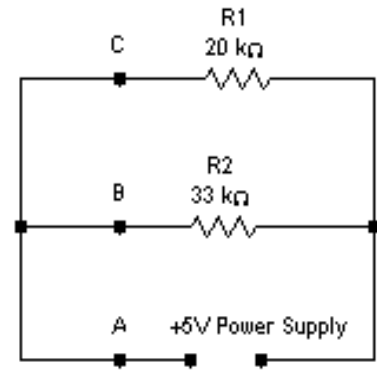

Figure 2
1. Connect the circuit in figure 2. Measure and record the current at the points A, B and C.